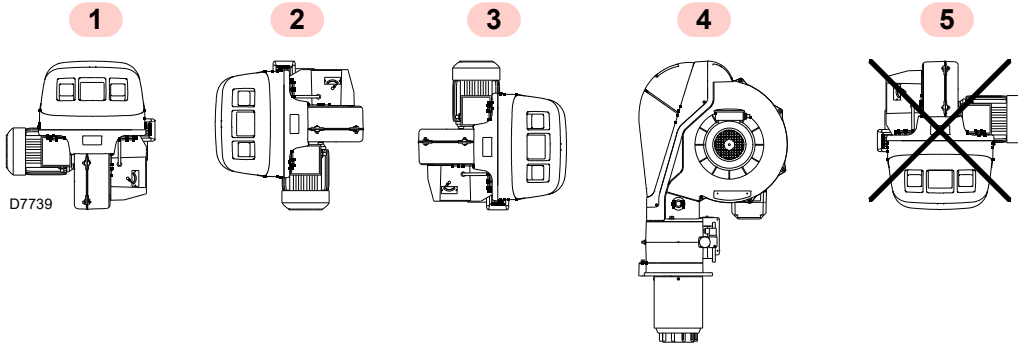

Fig. 12
- The burner is designed to operate only in positions 1, 2, 3 and 4 (Fig. 12).